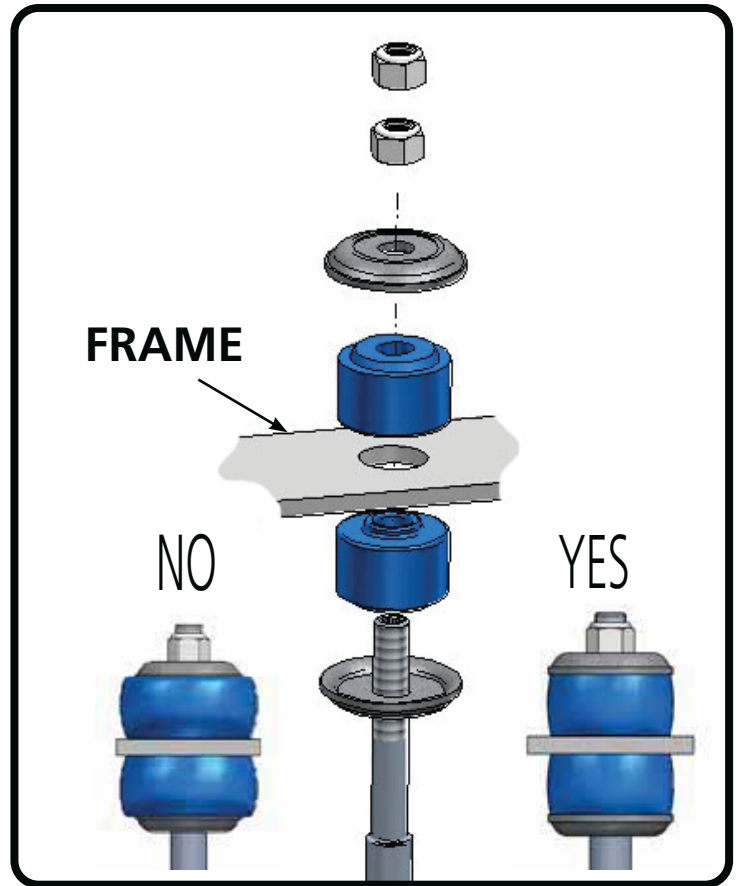

Figure 1
1. With the OEM shock removed, install the Ridetech shock. Remove the adjuster knob by loosening the set screw using the supplied Hex Key. Install a Bushing Support Washer on to the shock shaft followed by a Shock Stem Bushing (Figure 1).
NOTE: The Bushing should be tight, but not to the point that the bushing is bulging past the Support Washer (Figure 1).